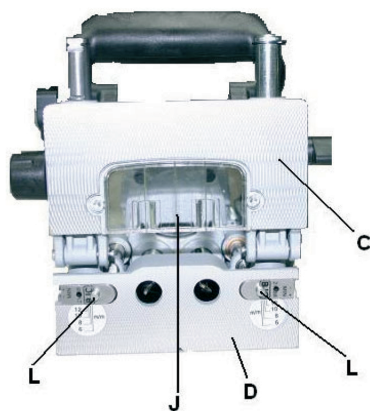

Fig.5
- I Depth adjustment scale (Fig.5)